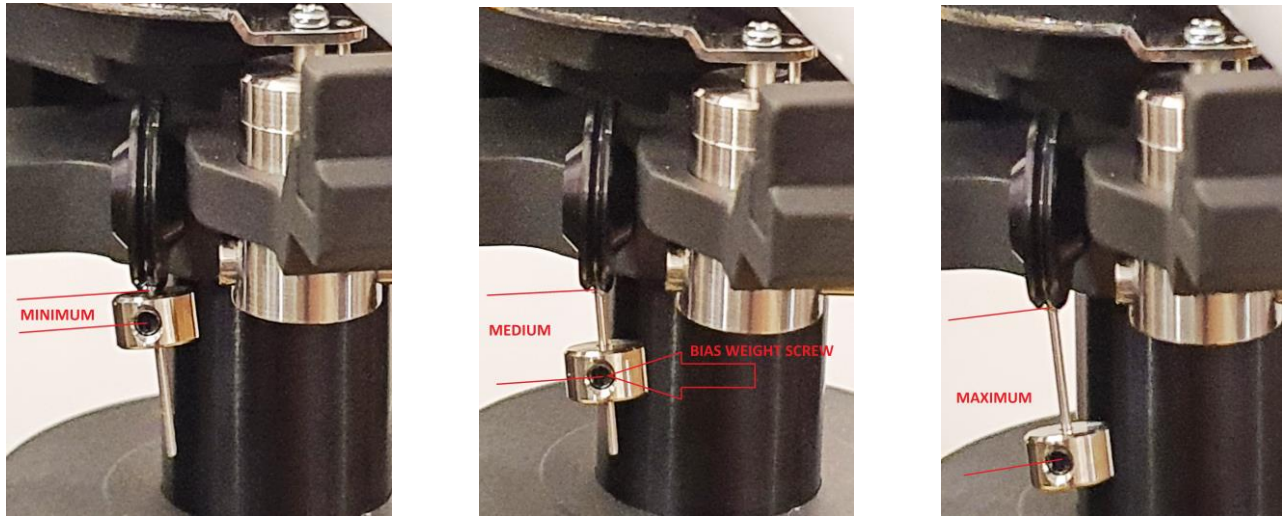

Fig. 18. Bias adjustments distances: minimum – medium - maximum
The bias should be adjusted according to the tracking force. Using Allen key 1.5 mm, unlock the screw on the bias weight and position it per your chosen tracking force. Lock the screw back, when weight is in the position. (Fig. 18) Be sure the nylon thread stays in the wheel V groove of the bias wheel.